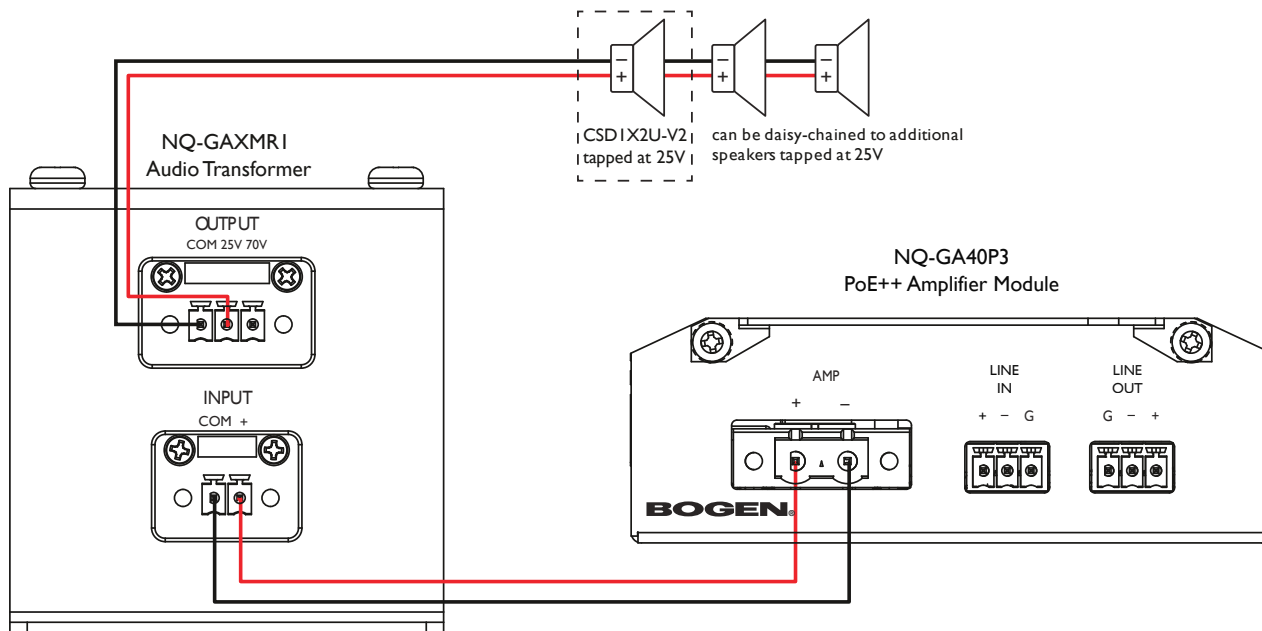
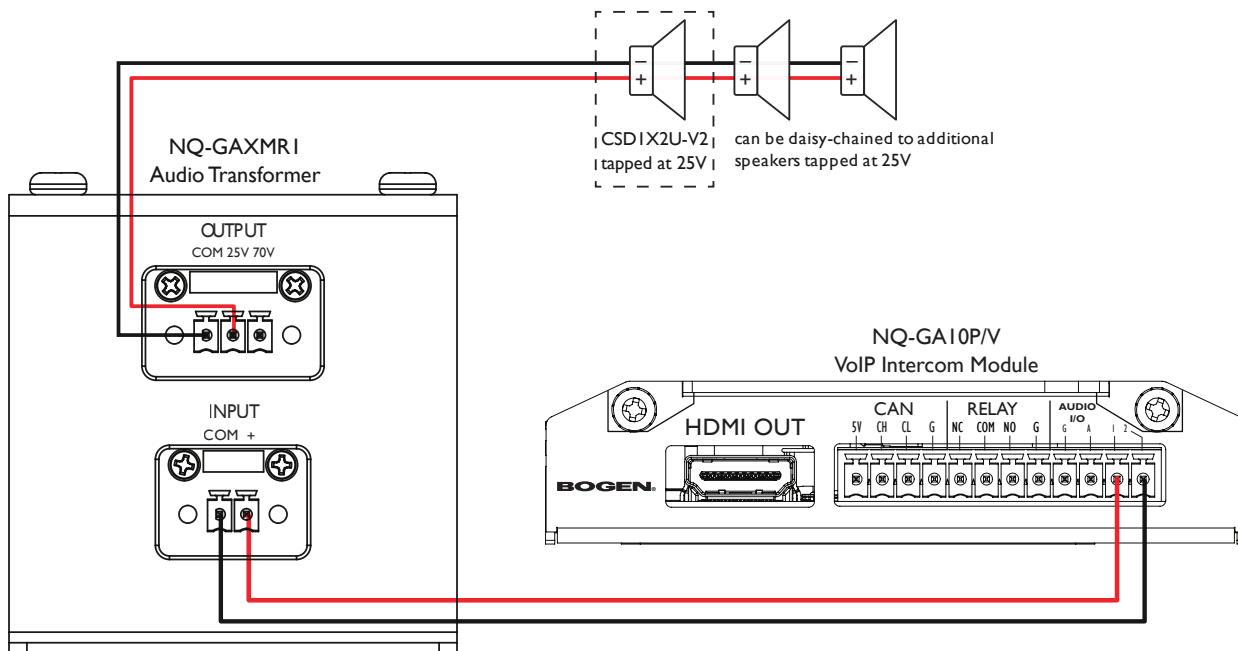
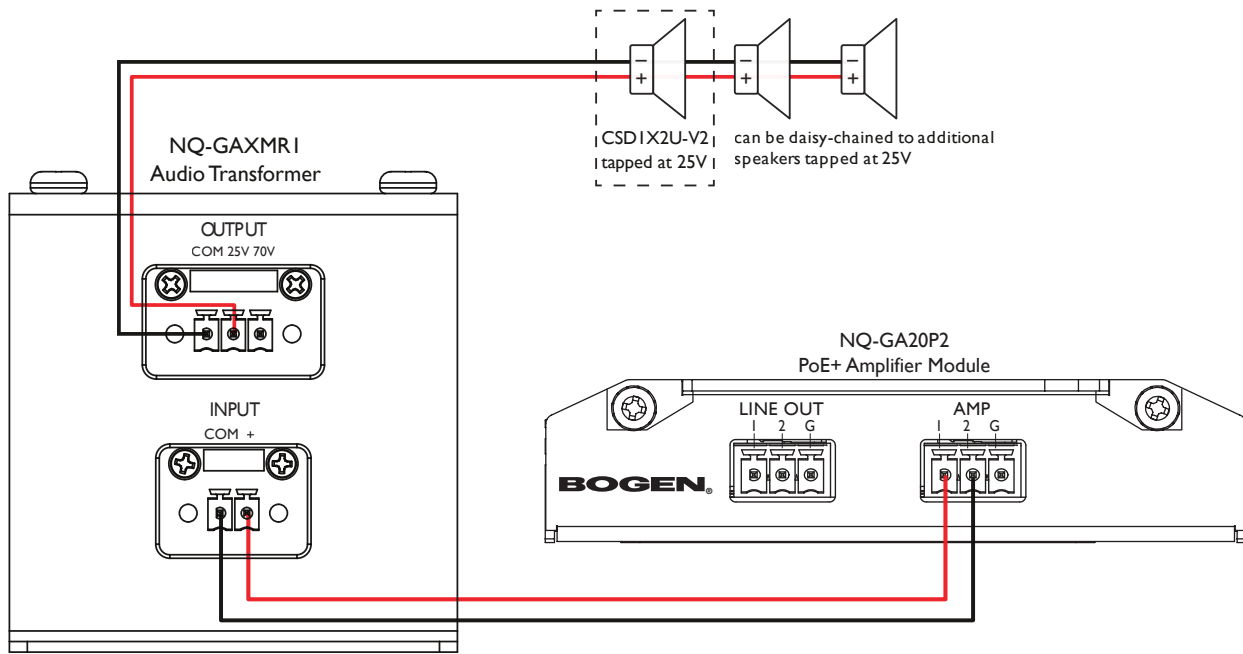

Figure 6: NQ-GA40P3 PoE++ Amplifier Module connected to NQ-GAXMR1 Audio Transformer, CSD1X2U-V2 Speaker, and additional speakers.
Figure 7: NQ-GA10P/V VoIP Intercom Module connected to NQ-GAXMR1 Audio Transformer then to speaker.
Figure 8: NQ-GA20P2 PoE+ Amplifier Module connected to NQ-GAXMR1 Audio Transformer and speaker.
**Figure 6** shows the NQ-GA40P3 connected to the NQ-GAXMR1. The NQ-GA40P3 can be replaced by either the NQ-GA10P/V (see **Figure 7**) or NQ-GA20P2 (see **Figure 8**) modules. These illustrations also show 25V wiring running from NQ-GAXMR1 to a CSD1X2U-V2 speaker and additional speakers if needed. 70V is also an option, but both outputs cannot be used simultaneously. If additional speakers are needed, proper care should be taken when wiring so the amplifier does not become overloaded.
**Note:** The NQ-GA10P/V intercom function cannot be used when the speaker output is wired in the configuration illustrated in **Figure 7**.